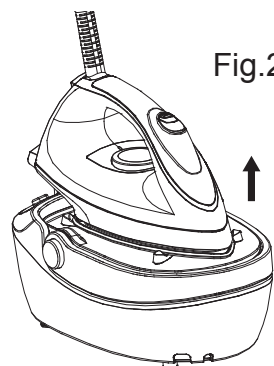

Fig.2
- After use, allow the appliance completely cool down, put the iron on the base. Lift handle up. There will be a “click” sound to indicate the handle has been locked in place and you can carry the appliance by the handle. (Fig.2)